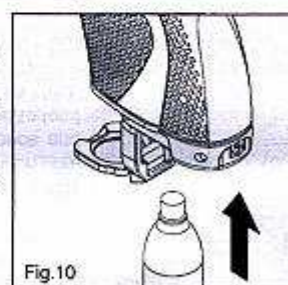

Fig.10
- insert the CO₂ bulb (Fig.10) and close the cramp in reverse order. Tighten the ring for positioning the needle on the bulb top before closing the cover. During cover closing the needle pierces the bulb.
- place a new cartridge inside the grip. Sealed (narrow) end of cartridge goes first (Fig.10);